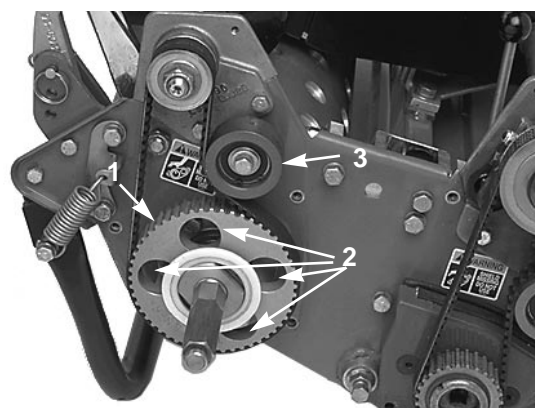

Fig. 3
6. Rotate the drive pulley until the holes align with the (4) roller bearing flange screws (Fig. 3).